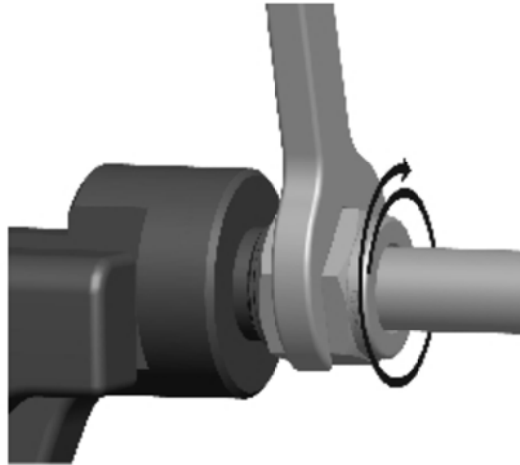

Figure 8
4.3.3 Assemble the fitting as per 4.1.2 and 4.1.3 in the initial installation procedure, as shown in Figure 8.